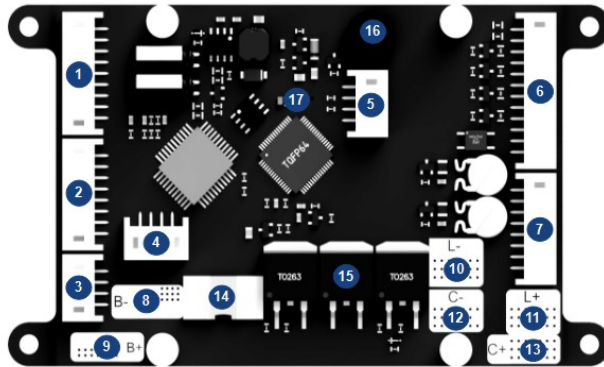
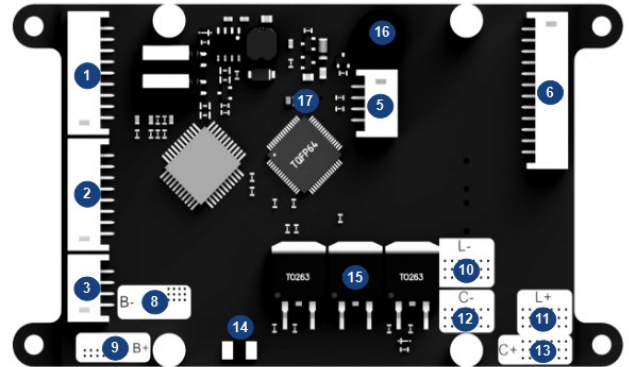
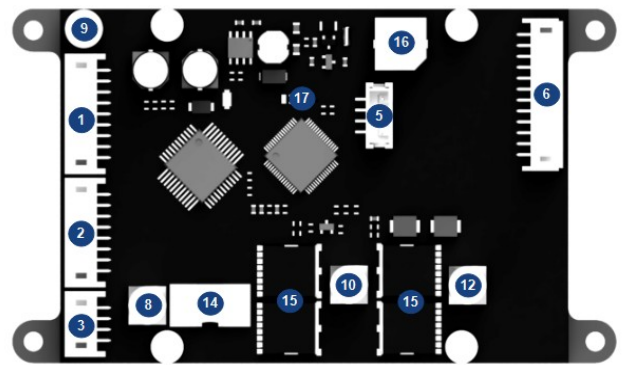

Figure 2.1: Tiny BMS v2.1 high power PCB board
Figure 2.2: Tiny BMS v2.1 low power PCB board
Figure 2.4: Tiny BMS v2.2 low power PCB board
Tiny BMS PCB boards (Figure 2.1 to Figure 2.4)
- 9 Solder-pad (or terminal in version 2.2) for battery pack positive terminal (B+). For *Tiny BMS* hardware version 2.1 (Figure 2.1 to Figure 2.2) this solder-pad can be used as high current path from battery pack positive terminal (+) to load and charger positive terminals (+). Solder-pad B+ is directly connected to L+ 11 and C+ 13 solder-pads on the *BMS* board, but beware: only 30 A continues current can flow through this on board positive current path, otherwise there is a high probability to damage the *BMS* board itself. It is not recommended to use L+ 11 and C+ 13 solder-pads on high power versions of *Tiny BMS*. B+ also supplies current to *BMS* internal circuits, the thinner wire can be used to connect battery pack positive terminal (+) to *BMS* board B+ solder-pad.